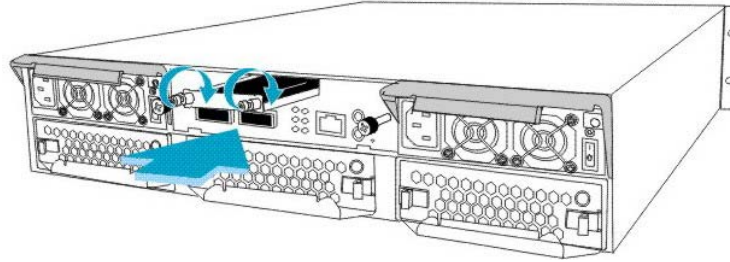

Figure 5-7: Installing the BBU
Step 3. Secure the BBU to the subsystem by fastening the retention screw. (See **Figure 5-7**)